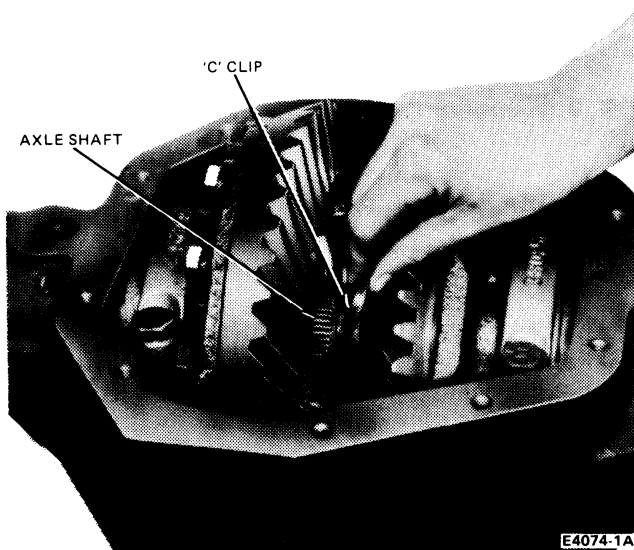

FIG. 5 Removing 'C' Clip
7. Push the flanged end of axle shaft toward the center of the vehicle and remove the 'C' clip from button end of shaft as shown in Fig. 5.